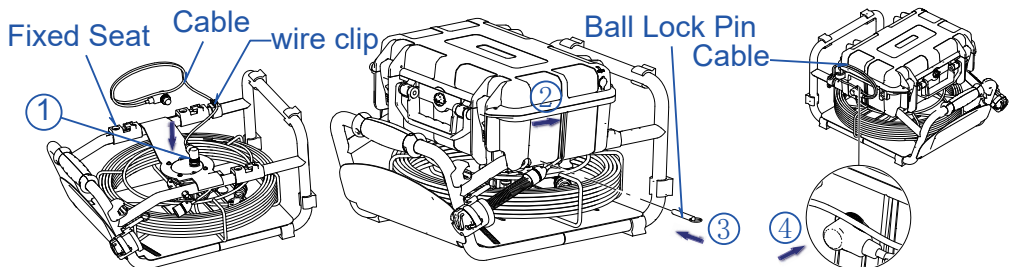

Figure 7. Install Toolbox Unit
2. Install Toolbox Unit (Figure 7.)